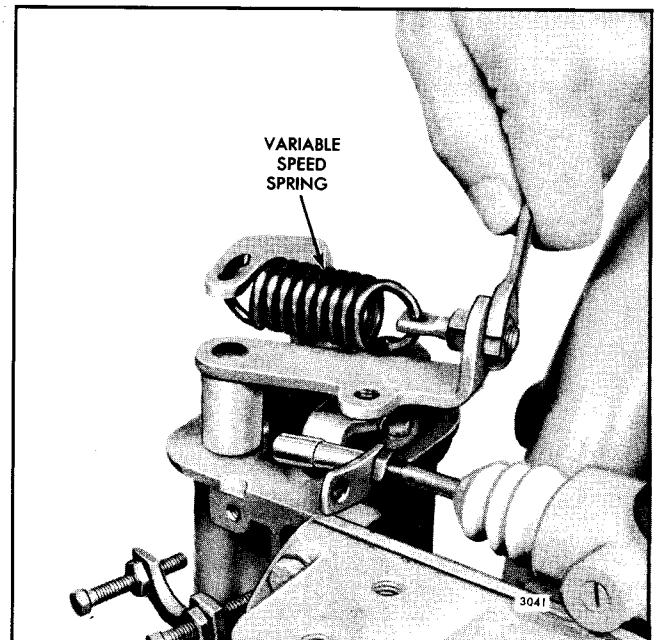

Fig. 2 - Adjusting Governor Spring Eyebolt
1. Adjust the variable speed spring eyebolt until 1/8" of the threads project from the outer locknut (Fig. 2).